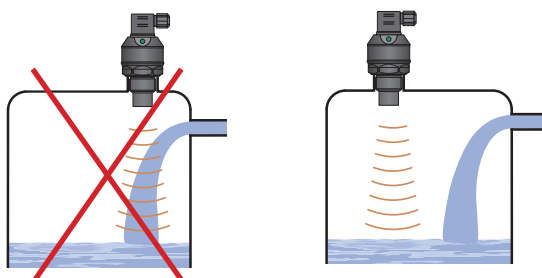

Fig. 7: Installation of the device out of reach of filling circulation
- i) Do not install the device in or above the **filling point** (Fig. 7). The measurement could be af-